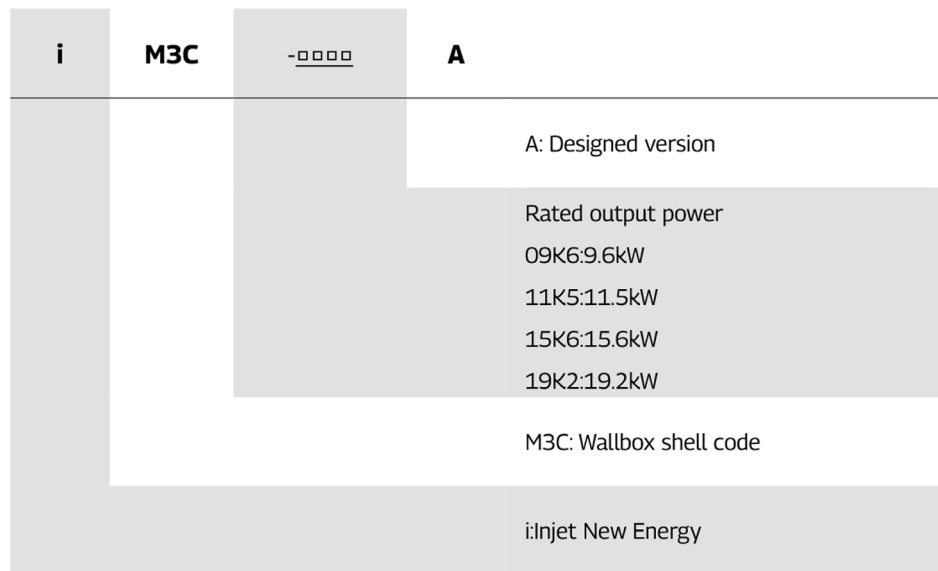

Fig. 4-3 Model number definition
- ▶ The model number definition of charger follows the rules as shown in Fig. 4-3.